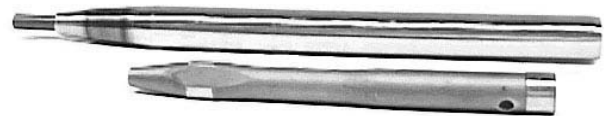

Figure 8-6. Striker Removed from Body/Anvil.
5. Once the Striker (2) is accessible, lower the Body/Anvil (1) to the level surface and block it to prevent rolling. Pull the striker from the Body/Anvil by hand as shown in Figure 8-6.